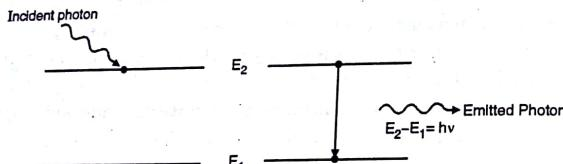

Fig. 4.2.3 : Stimulated emission
- This phenomenon is called **forced emission** or **stimulated emission** as shown in Fig. 4.2.3. The process may be represented as